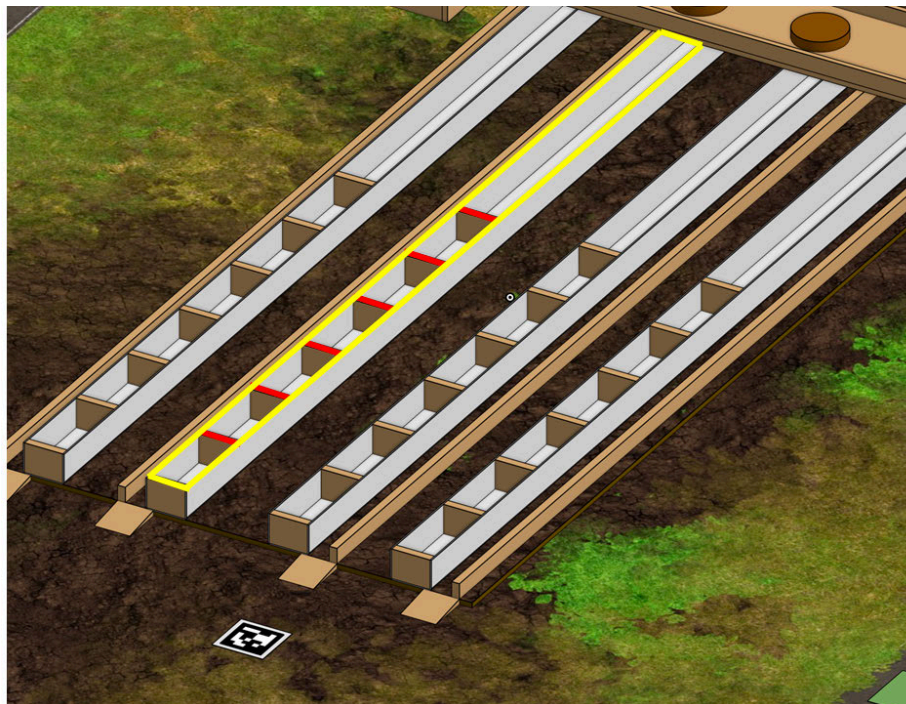

Figure 40: Cultivated Row and Row Sections
Cultivated Row – A designated crop row used during Seeding Sprint. There are four (4) Cultivated Rows on the Field, and three (3) are active during each Match. Active Cultivated Rows are identified through DEXI-5 scanning the Bridge Images and communicating the correct rows using LED Signals. Each Cultivated Row is divided into seven (7) sections for Seed scoring. See Figure 40 below. Yellow highlight outlines a Cultivated Row and red highlight outlines row section dividers.